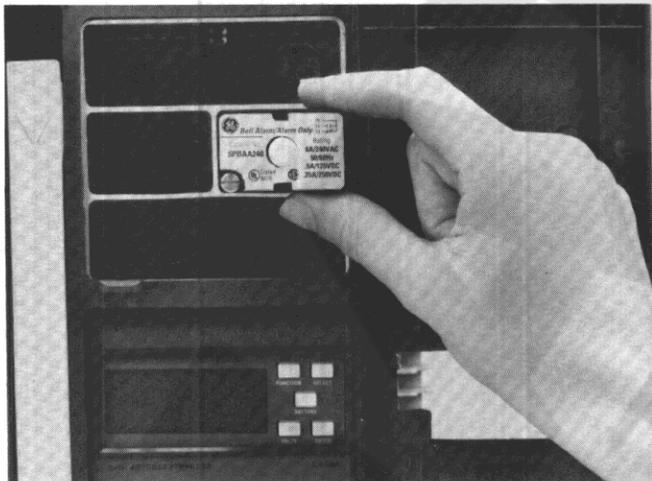

Figure 4. Inserting the Bell Alarm-Alarm Only into the accessory compartment.
3. Insert the Bell Alarm-Alarm Only module into the proper slot, as illustrated in Figure 4. The Bell Alarm-Alarm Only module is keyed for the correct slot in the accessory compartment. If the module cannot be fully seated in the compartment, check that the compartment position is correct.